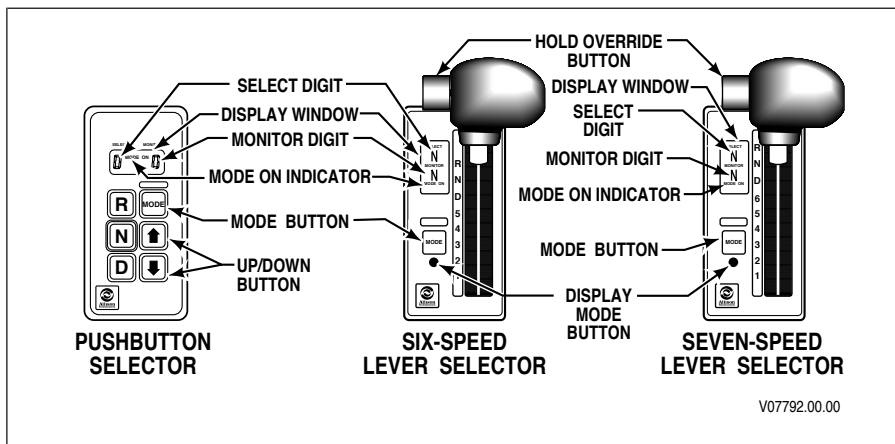

Figure 2-1. Shift Selectors
a. Electronic Fluid Check Procedure. Fluid level information may be displayed on the shift selector (Figure 2-1) if the transmission being maintained has an oil level sensor (OLS). If the transmission does not have an OLS, refer to Paragraph b. Manual Fluid Check Procedure in this Section.